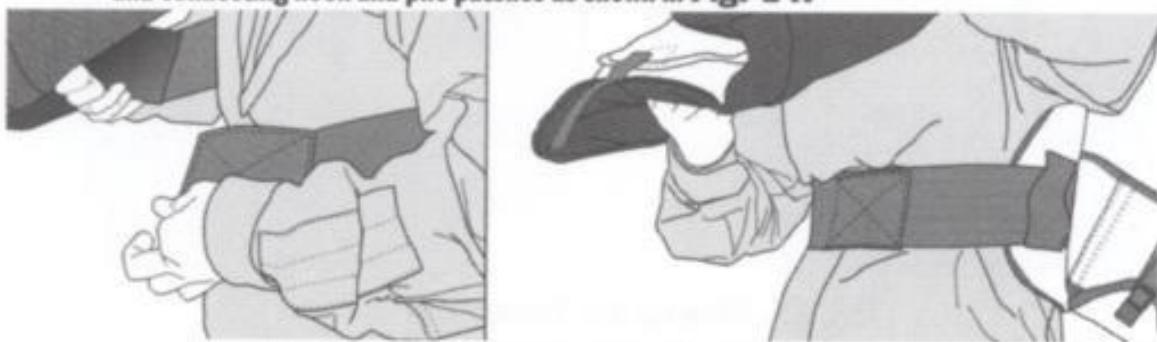

Fig. 14. Attaching the Elastic Waist Band.
5. Secure waist band by lifting Front Carrier and pulling two halves of the band forward and connecting hook and pile patches as shown in **Fig. 14**.